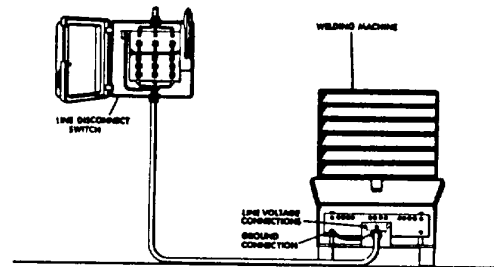

Figure 3- Primary Connections
- b. Locate and open the small access door below the fan on the rear panel of the welding machine. The primary input voltage connection terminal board is behind the access door. See Figure 3.